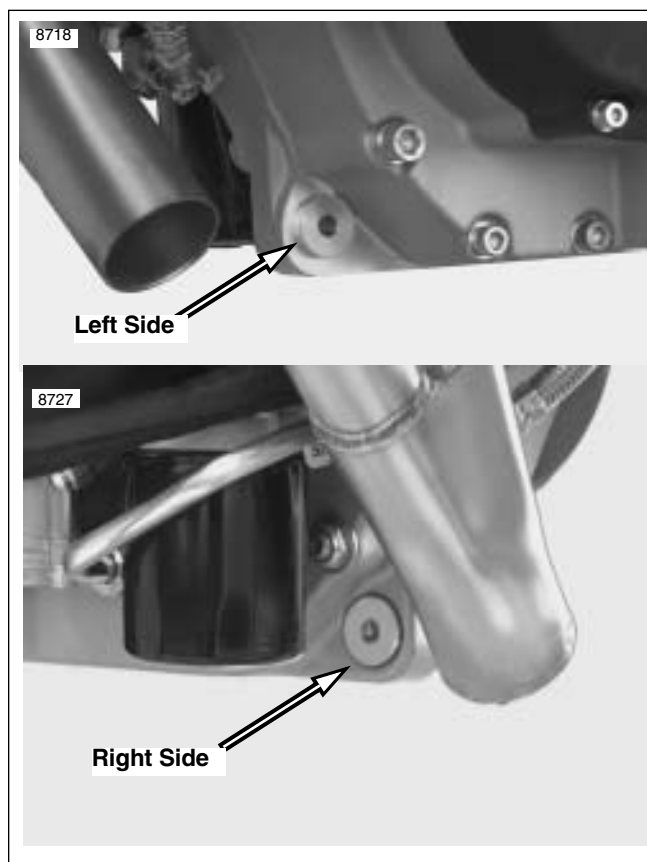

Figure 3-29. Front Exhaust Mount Bushings (2 piece)
- See Figure 3-29. Aluminum bushings from front exhaust mount.